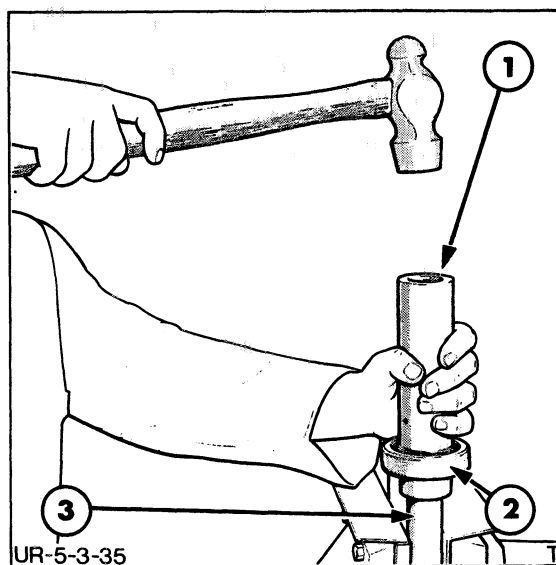

FIGURE 4-240
2. Install a new bearing on the shaft and drive it into place with a sleeve of the appropriate diameter and convenient length as shown in Figure 4-240 .